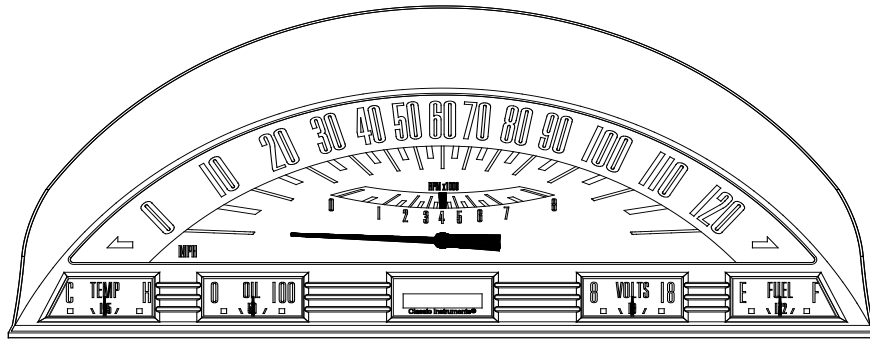

FIG. 9
- 1) Tap the pushbutton until the tachometer points to 4000 RPM (real-time speed adjust option). **Fig. 9**